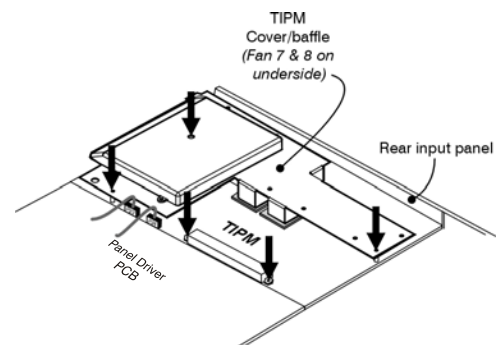

Figure 8. Remove the TIPM
3. Remove the three (3) screws securing the TIPM cover/baffle over the TIPM. (Figure 8.)
7. Remove the two (2) screws located near the large connector at the front edge of the TIPM (where the Panel Driver PCB connects). See Figure 8.